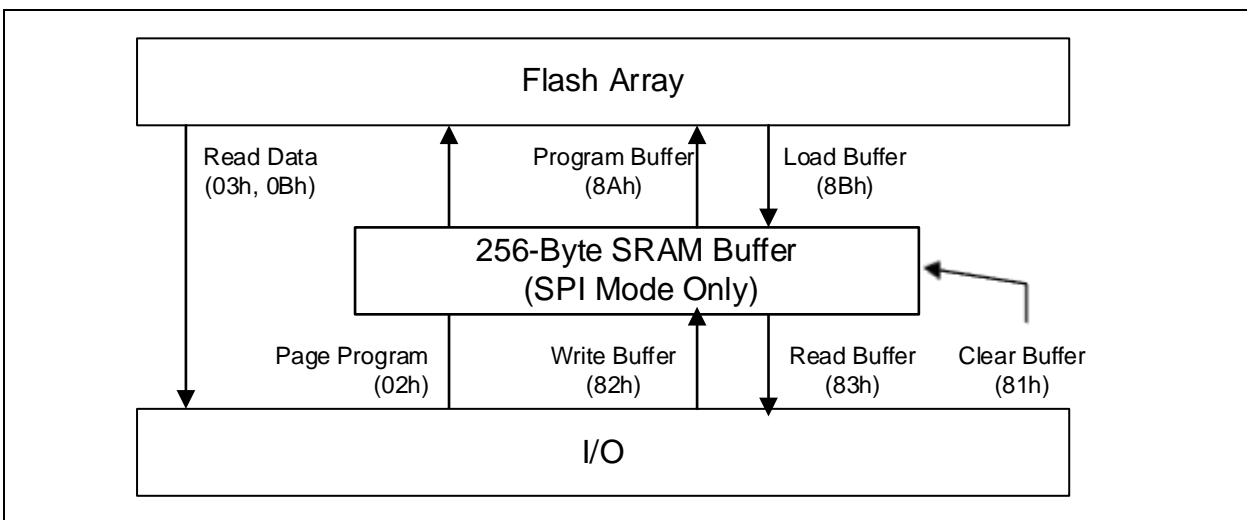

Figure 3. Serial Flash Buffer Mode
The W25Q33PW supports Quad Peripheral Interface (QPI) operations only when the device is switched from Standard/Dual/Quad SPI mode to QPI mode using the “Enter QPI (38h)” instruction. The typical SPI protocol requires that the byte-long instruction code being shifted into the device only via DI pin in eight serial clocks. The QPI mode utilizes all four IO pins to input the instruction code, thus only two serial clocks are required. This can significantly reduce the SPI instruction overhead and improve system performance in an XIP environment. Standard/Dual/Quad SPI mode and QPI mode are exclusive. Only one mode can be active at any given time. “Enter QPI (38h)” and “Exit QPI (FFh)” instructions are used to switch between these two modes. Upon power-up or after a software reset using “Reset (99h)” instruction, the default state of the device is Standard/Dual/Quad SPI mode. To enable QPI mode, the non-volatile Quad Enable bit (QE) in Status Register-2 is required to be set. When using QPI instructions, the DI and DO pins become bidirectional IO0 and IO1, and the /WP and /HOLD pins become IO2 and IO3 respectively. See Figure 3 for the device operation modes.
Using the Write Buffer instruction, data is first shifted into the SRAM from the SPI bus. When the instruction sequence has been completed, the entire 256-bytes is transferred to the Program Buffer. The Program Buffer supports the array during the Erase/Write cycle (tWP), freeing the SRAM to accept new data. This double-buffering scheme increases erase/write transfer rates and can eliminate the need for external RAM buffers (Figure 3). The SRAM is fully byte-addressable. Thus, the entire 256-bytes, a single byte, or a sequence of bytes can be read from or written to the SRAM. This allows the SRAM to be used as a temporary work area for read-modify-write operations prior to a sector write.